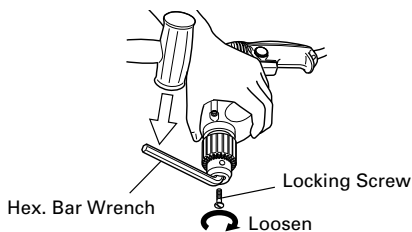

Fig. 7
(1) Removing chuck from drill (Fig. 7)